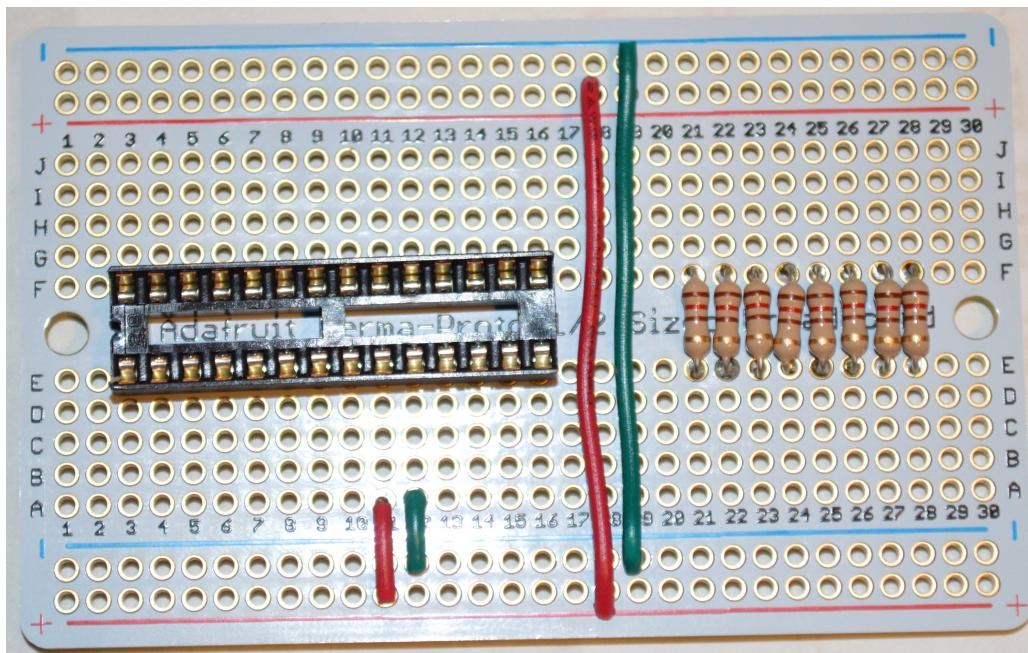

Figure 2.2: GPIO Board with Socket, Resistors, and Fixed Wires
- Then add some fixed wires. See Figure 2.2.